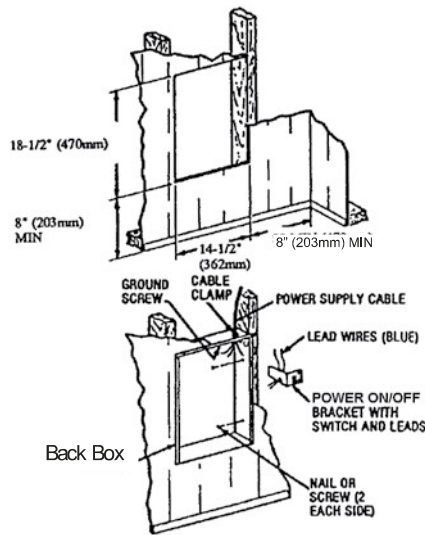

Fig. 2: Locating Back Box in Existing Construction
1. Provide a wall opening 14-1/2" (362mm) wide by 18-1/2" (470mm) high at the desired mounting height, but no closer than 8" (203mm) from floor. (See Figure 2)